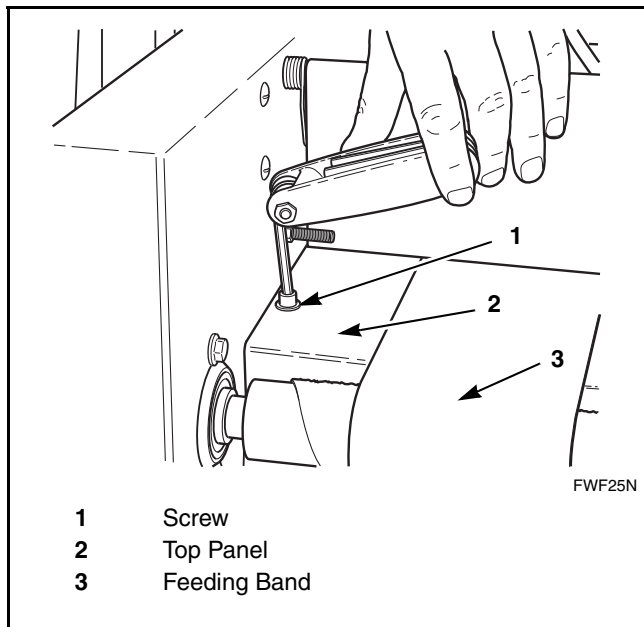

Figure 6
- e. Remove screw from left side of top panel (behind feeding roller) Refer to *Figure 6*.